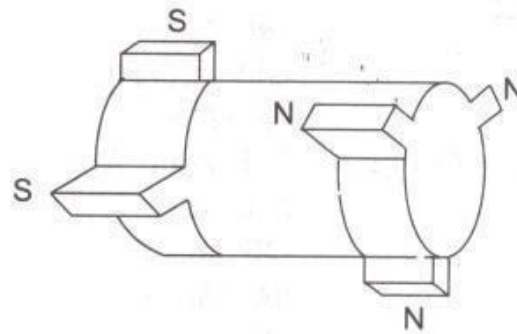

Fig.3 Stepper motor rotor
- ❑ Fig.3 shows conceptual positioning of the rotor teeth on the surface of rotor, for a six teeth rotor.